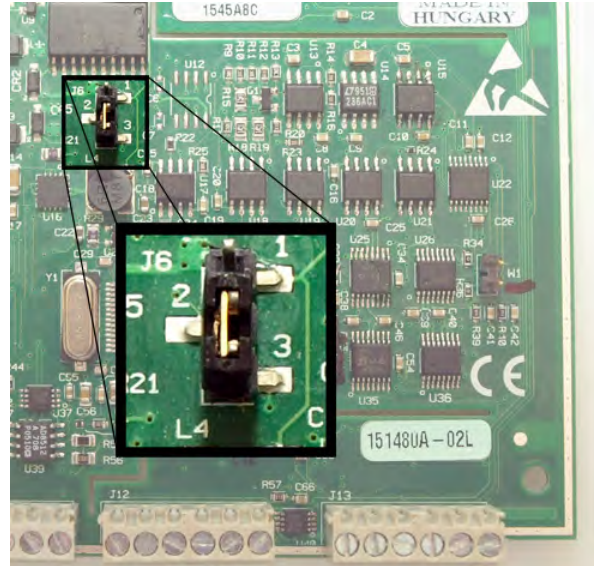

Figure 11. Location of J6 jumper
5. Configure jumper **J6** for either pull-up, pins 1-2, or pull-down, pins 2-3. The jumper is configured by default for pull-up. Figure 11 shows the location of the jumper on the board.